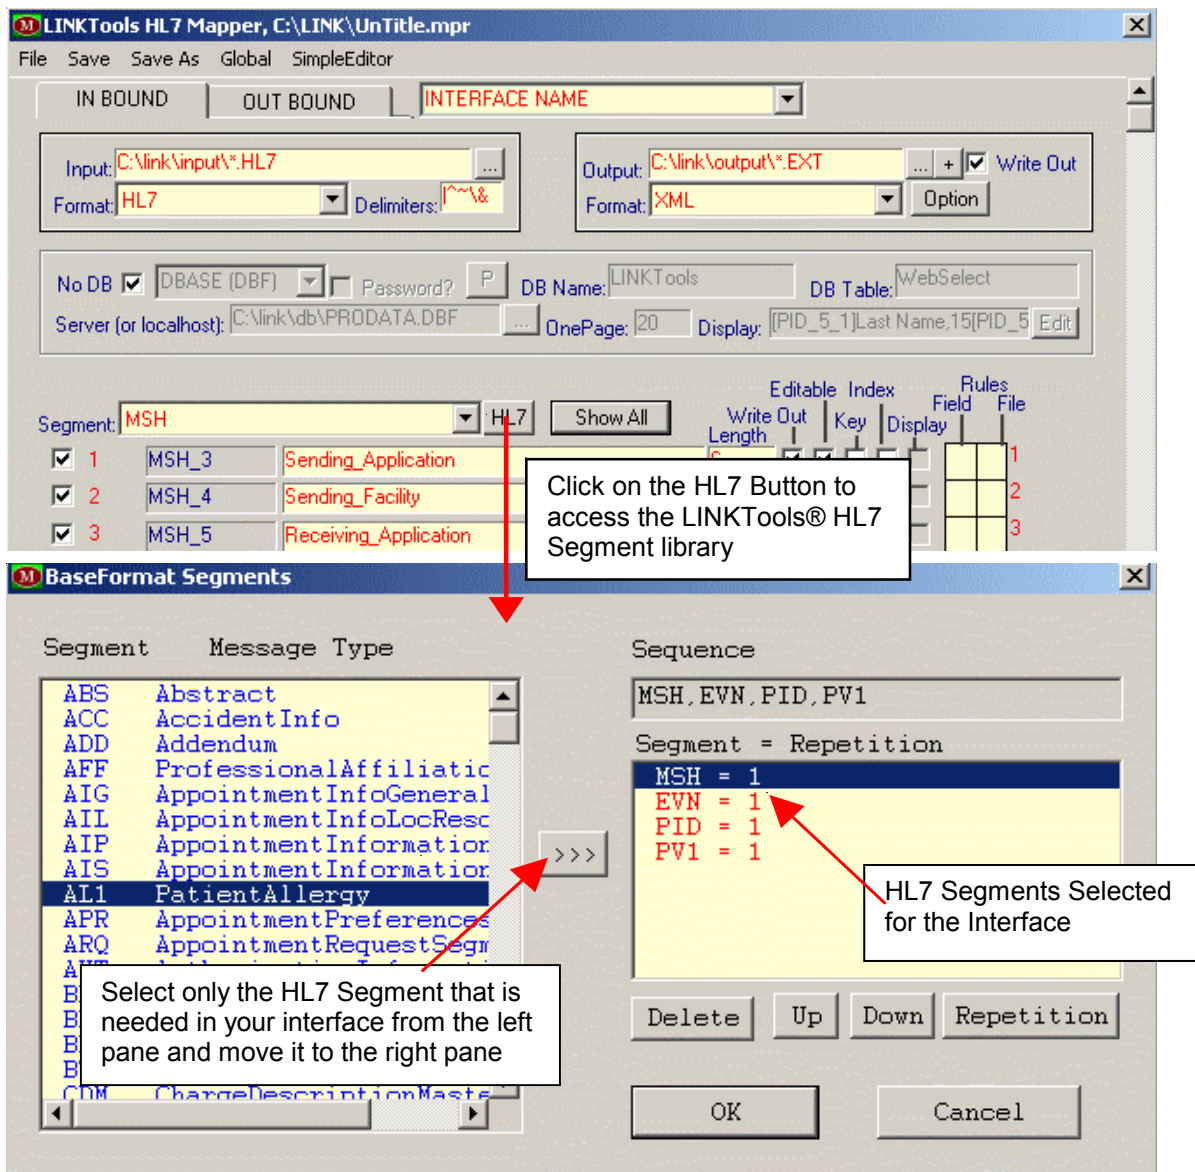

Figure 8: LINKTools® Dynamic Mapper HL7 Message Segment Library Left pane and HL7 Segments selected from the library Right pane.
2. **HL7 Button:** Click on this button to access the LINKTools® HL7 message library. The HL7 message library dialog box allows users to select HL7 segments related to their HL7 interface. The left side of the HL7 message library dialog box consists of all HL7 segments and their Message Types. Users pick the HL7 segments from the left pane and move it to the right pane then click the OK button. The first HL7 message segment selected from the library is displayed in the "Segment column". All of its segment's field will load into the work area below for users' selection. (Figure 8)